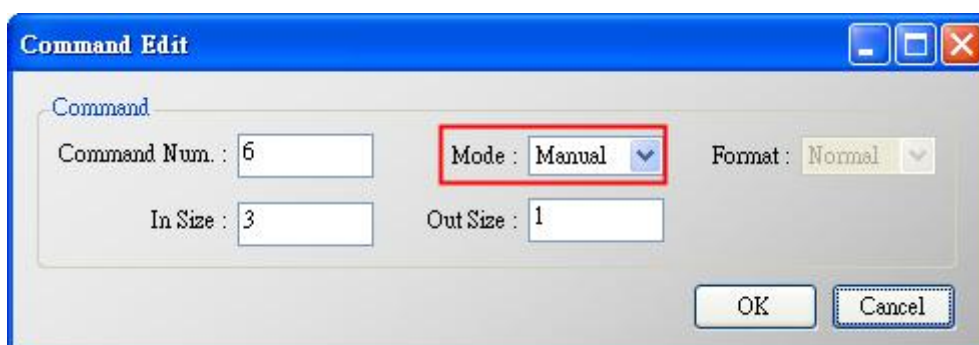

Figure 12-1 : Add UserCMD(6)
(1) Run “HG_Tool” and connect to I-9720.
(2) Open the “Device Configuration” page.
(3) Add “UserCMD(6)” and choose “Manual” option in “Mode” field. (Figure 12-1)